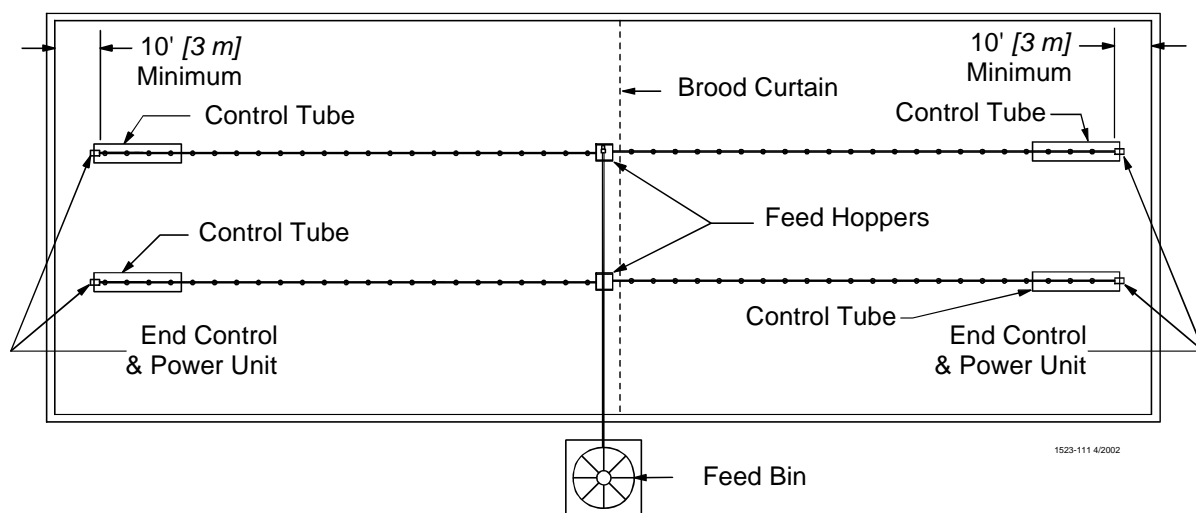

Figure 2.Component location diagram for systems over 500 feet. (Top View).
B. Systems with line lengths over 500' should be split in the center, as shown in **Figure 2**. This will reduce auger running time and eliminate the need for Mid-Line Controls for partial house brooding.